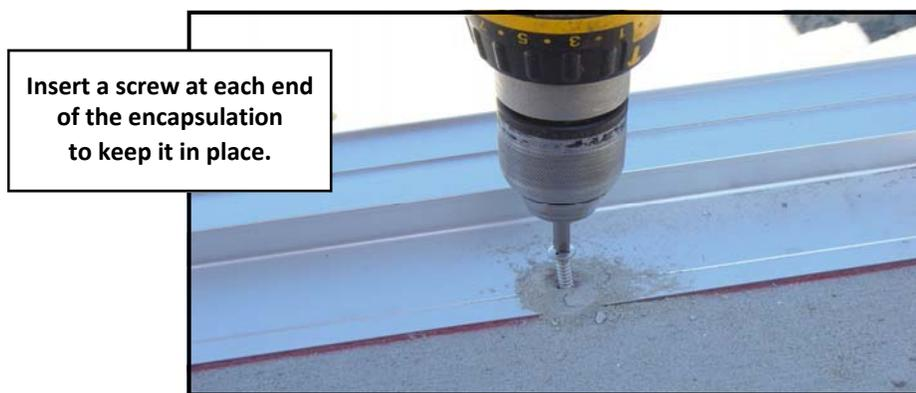

Fig. 5
Step 7: To anchor the encapsulation to the pool wall, use a Hammer Drill with a 1/4" masonry bit. Start at the non-housing end of the pool and drill one hole through the center line of the encapsulation and into the pool wall. Combine a #12 x 1-1/2" Phillips Screw with a Red Holob Anchor #10 and insert through the drilled hole and into the concrete beneath. **(Fig. 5)**